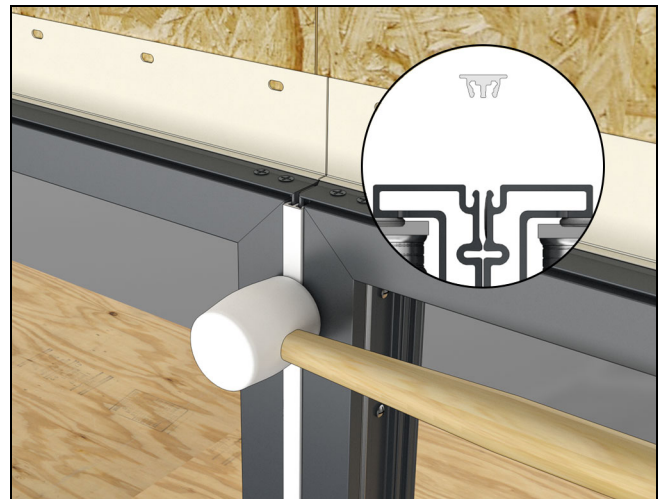

Figure 32
3. Apply the exterior covers. These can be seated with a rubber mallet. Make sure the covers are flush to the exterior accessory kerf. See Figure 32.